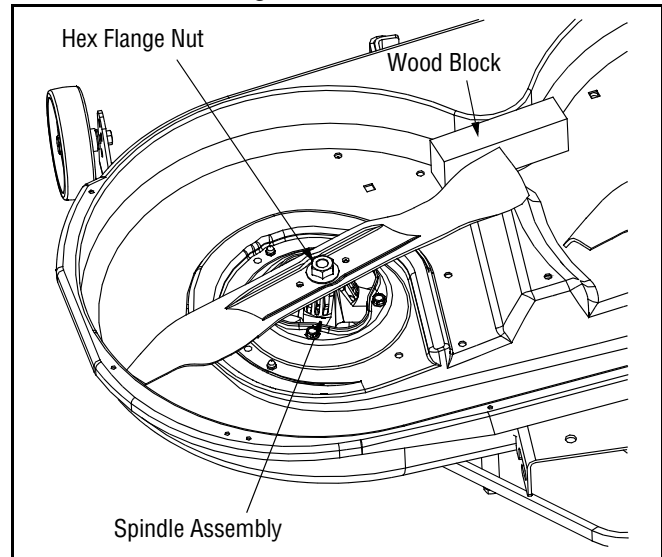

Figure 20
- Place a block of wood between the center deck housing baffle and the cutting blade to act as a stabilizer. See Figure 20.
- Use a 1-1/8" wrench to remove the hex flange nut that secures the blade to the spindle assembly. See Figure 20.